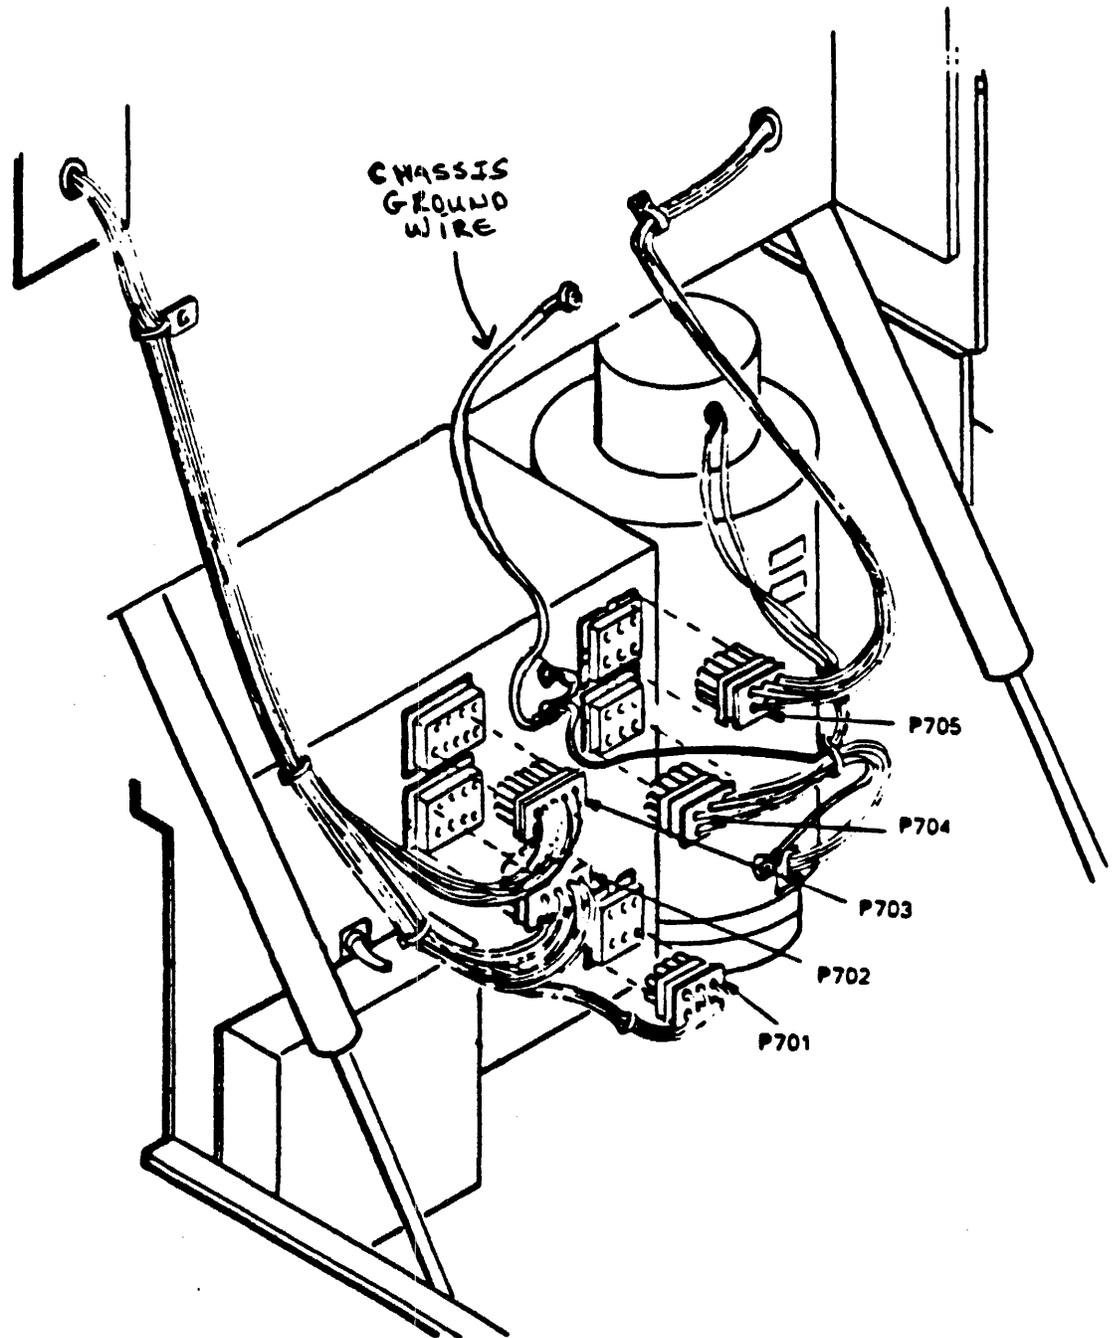

FIGURE 7
12. Attach E.S.D. wrist strap to chassis ground stud. (Figure 7)